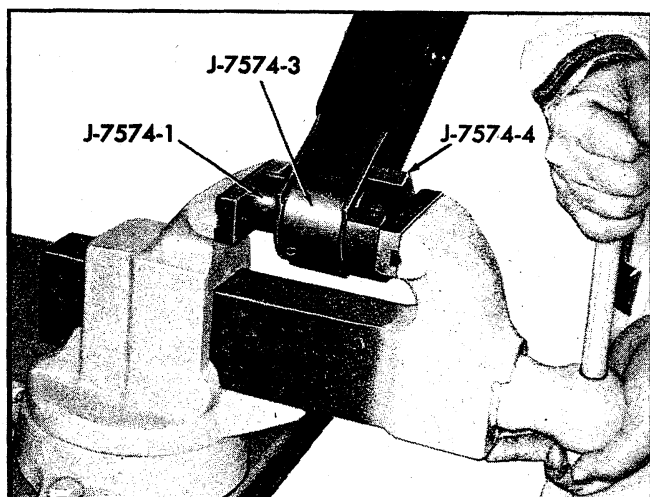

Fig. 33—Lower Control Arm Front Bushing Removal (Chevrolet)
- a. Center Receiver J-7574-4 over flanged end of bushing and position Spacer J-7574-3 over bushing and between sides of control arm. Using Remover J-7574-1 against small end of bushing, press bushing from control arm. Refer to Figure 33 for installed view of tools.